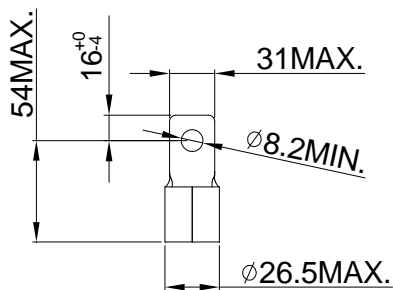

Figure 2
3. Figure 1 and Figure 2 show the specification for using ring lug.